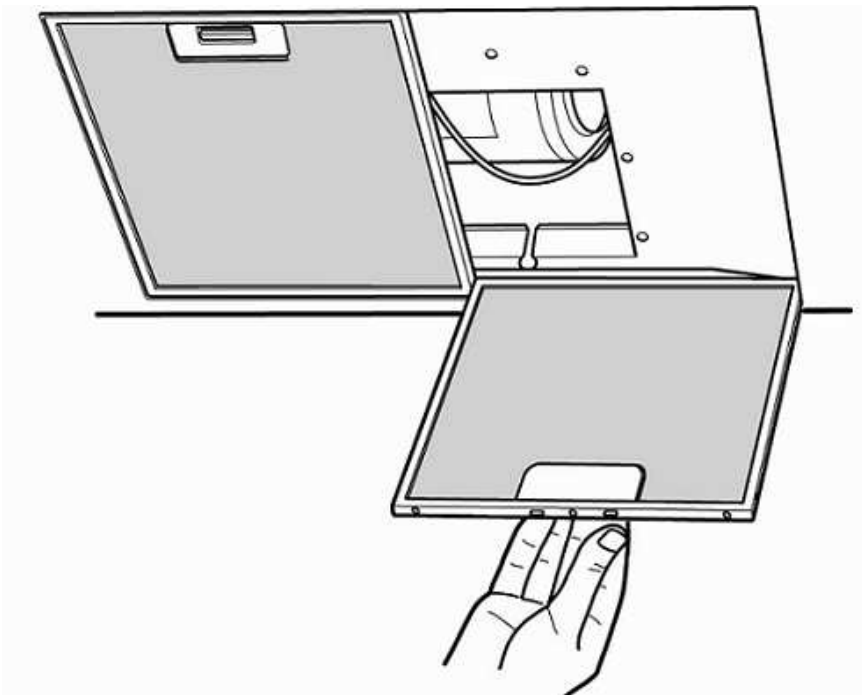
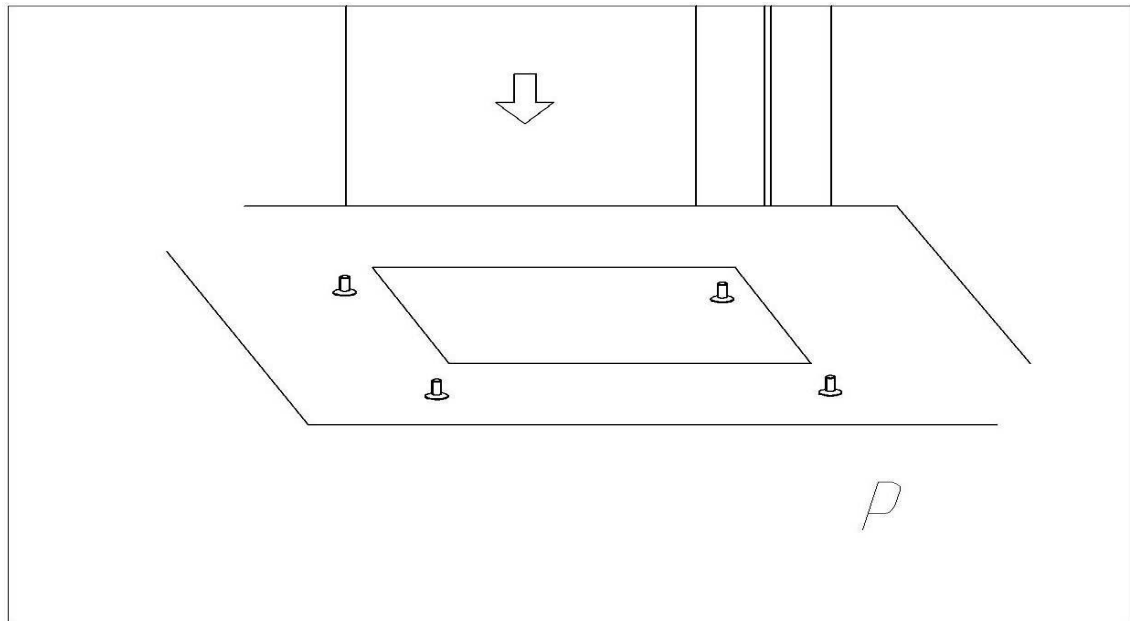

Fig.12
Fig.13
14. If the canopy is supplied with a lower chimney piece, that must be fixed to the hood body with screws. Remove the anti-grease filters from the hood by acting on the relevant handles (Fig.12). Screw the lower chimney piece pipe to the inside of the hood, using screws **P** (Fig.13). Replace the filters in their seat.